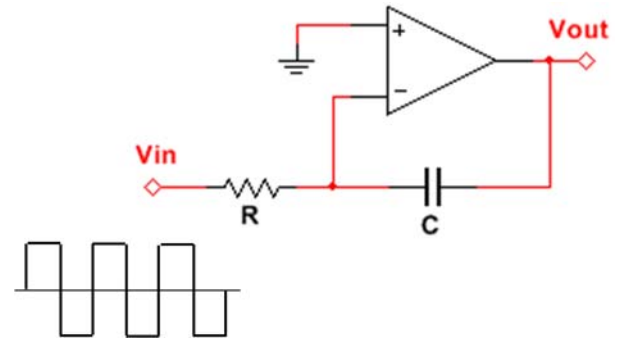

Fig. 3: Integrator circuit using an op amp.
3) An integrator (Fig. 3) produces an output voltage V_{OUT} that is related to the integral of V_{IN} . One application of an integrator is to generate a ramp waveform by integrating a square wave. Another application is being part of an analog PID (proportional-integral-derivative) control loop.